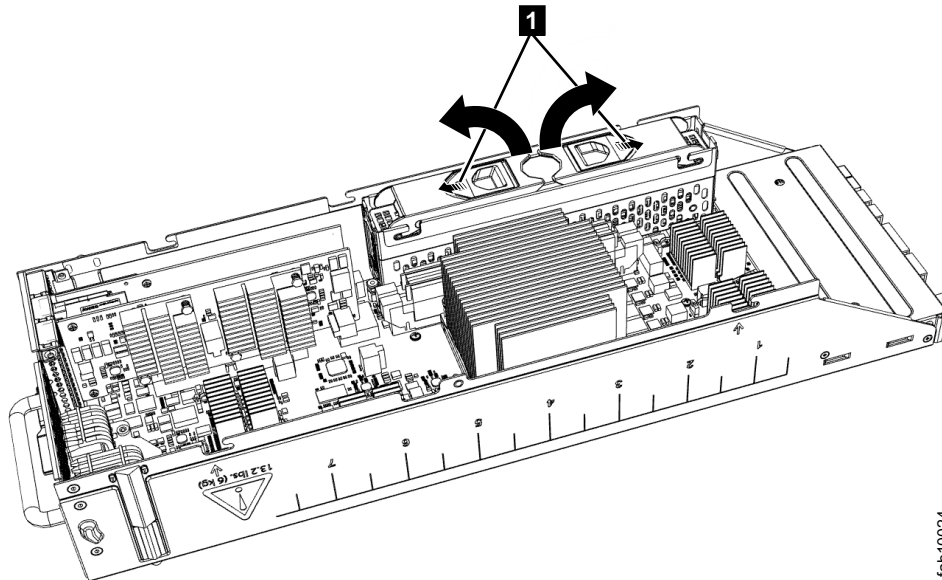

Figure 92. Opening latching arms to disconnect a Storwize V7000 Gen2 node canister battery
4. Spread the two blue battery latches outward as shown in Figure 92 on page 316. Raise open both latching arms of the battery simultaneously to disconnect the battery.